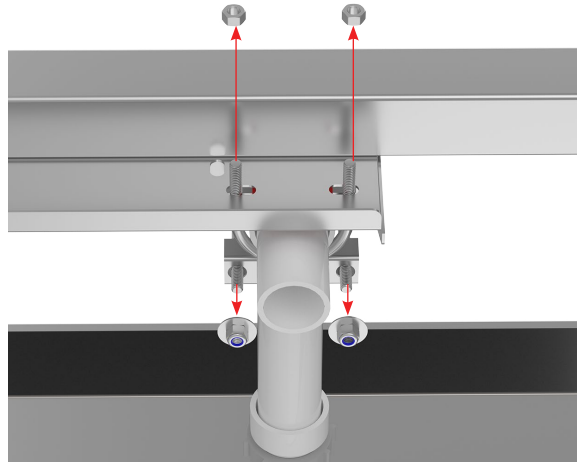

Fig. 3: Remove nuts and bolts/clamps
2. Detach the sink lower brace/shelf by removing the U-bolts and nuts attached to each drain assembly and the other bolts, nuts, clamp saddles and red/black rubber pads (Fig. 3). Do this for each drain assembly. Set this hardware aside in an orderly manner for later reattachment.